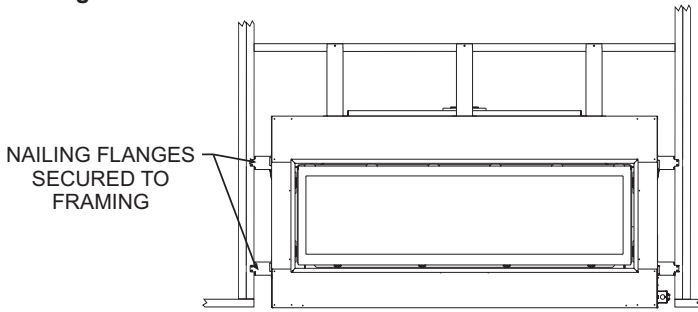

Figure 25
5. Secure fireplace to framing with nailing flanges. Preset depth to suit facing material (flush or 1/2in set back depths). See **Figure 25**.